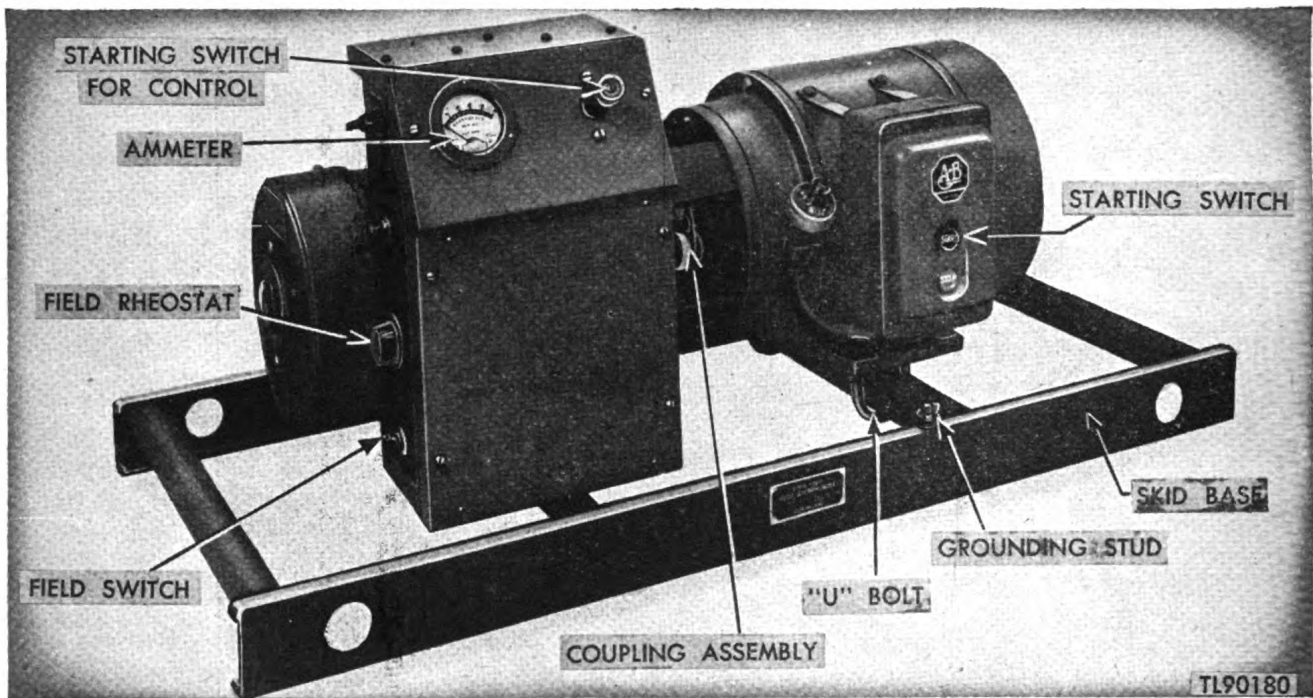
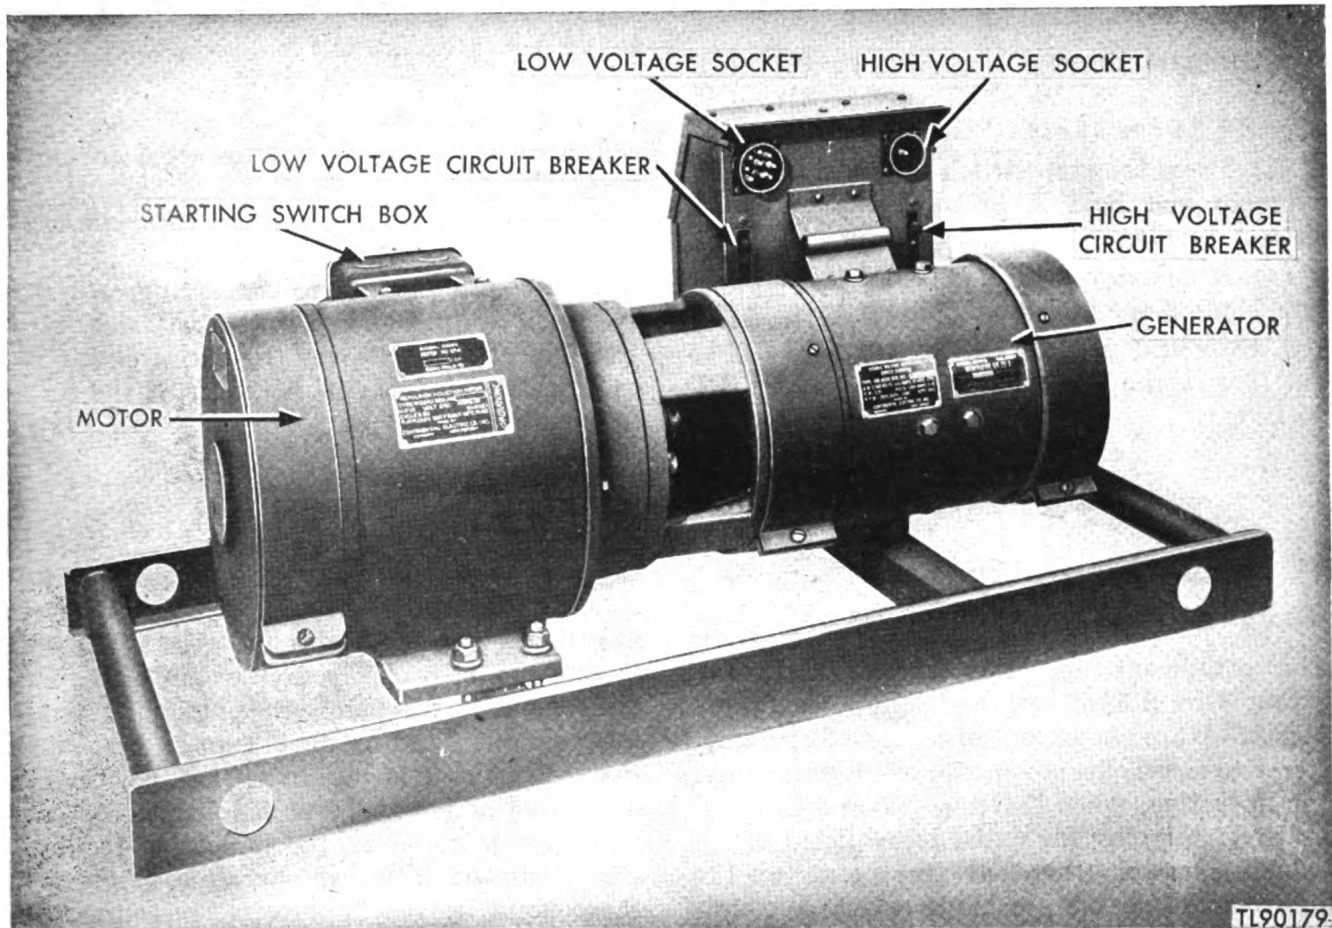

Figure 25. Motor Generator MG-37-A—view from control-box side.
Figure 29. Motor Generator MG-37-A ready for use—view from generator side.
(2) Remove the four bolts that hold the union-ring bracket (fig. 25) to the motor flange.
(3) Remove the U-bolts that hold the motor to the crosspiece of the skid base.
- a. Be sure that the field switch (fig. 25) is in OPEN position.
- b. Press START button on starting-switch box (fig. 25) to start the motor.
- e. Start the motor again, allow it to attain its full operating speed, and place the field switch in CLOSED position. Power should then be available at the output sockets (fig. 29) on the back of the control box and at the battery-charging terminals (fig. 25) on the control box.